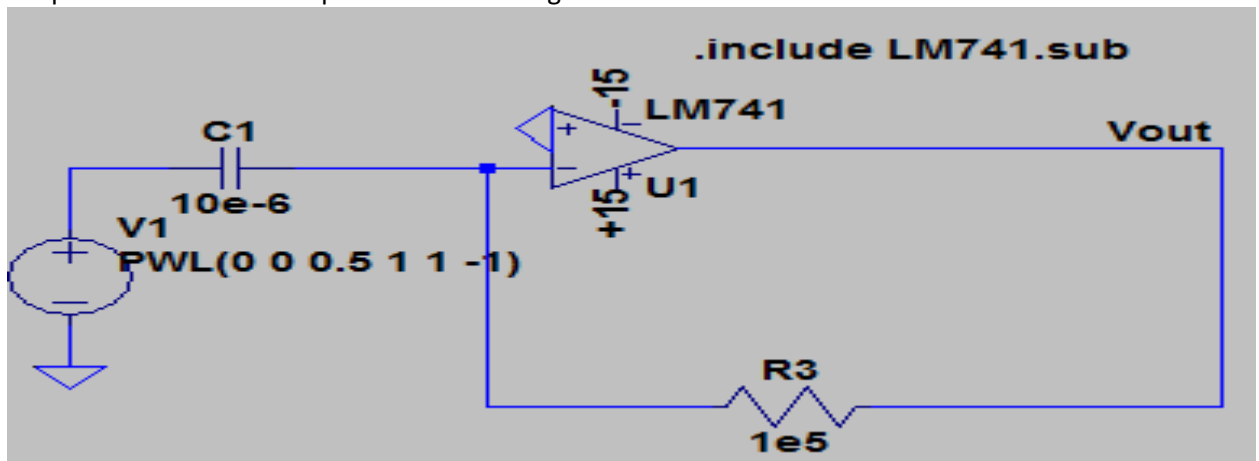

Figure 5
- Implement the circuit shown in figure 5 in LTSpice and observe the input and output voltage waveforms on CRO and Record their peak amplitudes.